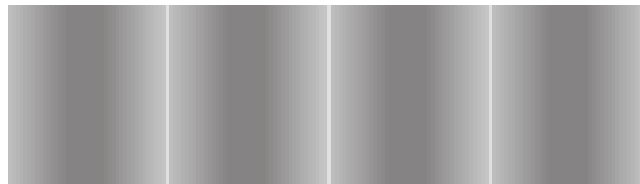

Figure 3-19: Test Image One
- If the camera is set for an exposure mode that uses an ExSync signal, the ExSync signal must be present and must toggle in order to output a line on the test image. Multiple transitions of the ExSync signal will produce a two dimensional image as shown in Figure 3-19 or Figure 3-21.